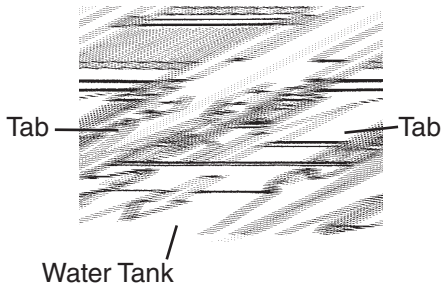

Fig. 38
- 5) Spread out the tabs to unlock the water tank, then slide it out. See Fig. 38.